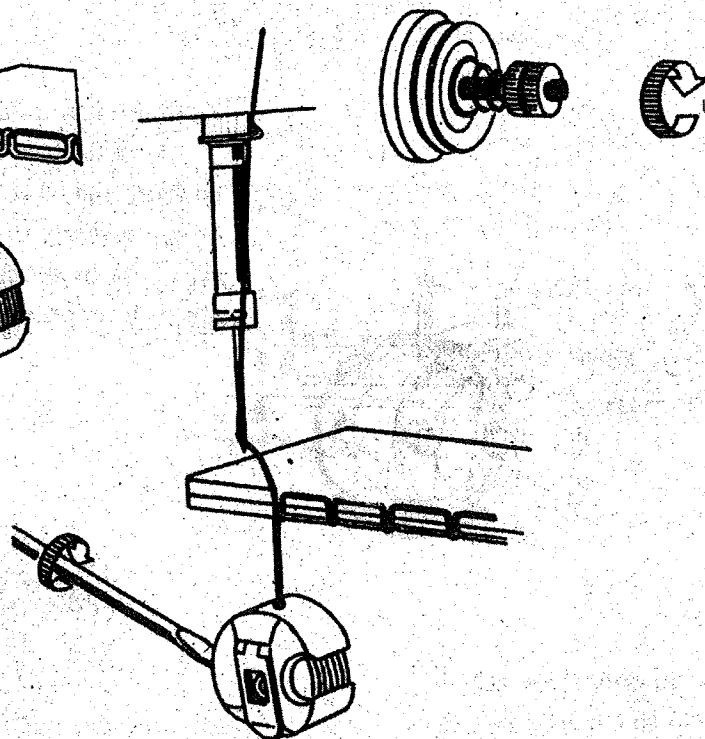

Fig. 30
- 2) If the needle thread tension is too low or bobbin thread is too high, turn the tension regulating thumb nut clockwise to increase the needle thread tension or turn the bobbin case tension regulating screw counterclockwise to decrease the bobbin thread tension (see Fig. 30).